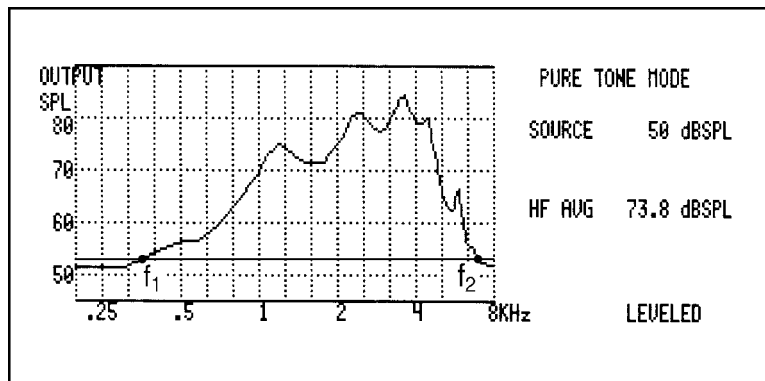

Figure 6.3.9—Frequency range
4. The two points at which the horizontal line intersects the frequency response curve are the low and high points (“ f_1 ” and “ f_2 ”) of the frequency range. See Figure 6.3.9.